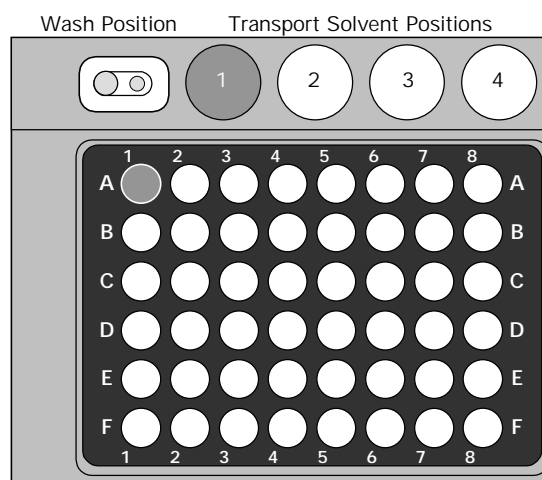

FIGURE 4-2. 48 Well Plate Holder and Location of Transport Liquid/Sample Vials
- a) Place a 250 μ L tapered sample vial in vial position A1 and one of the 10 mL capped vials in transport vial position 1 (leftmost position in the rack) as shown in FIGURE 4-2 (the transport liquid should have a lower strength than the mobile phase).